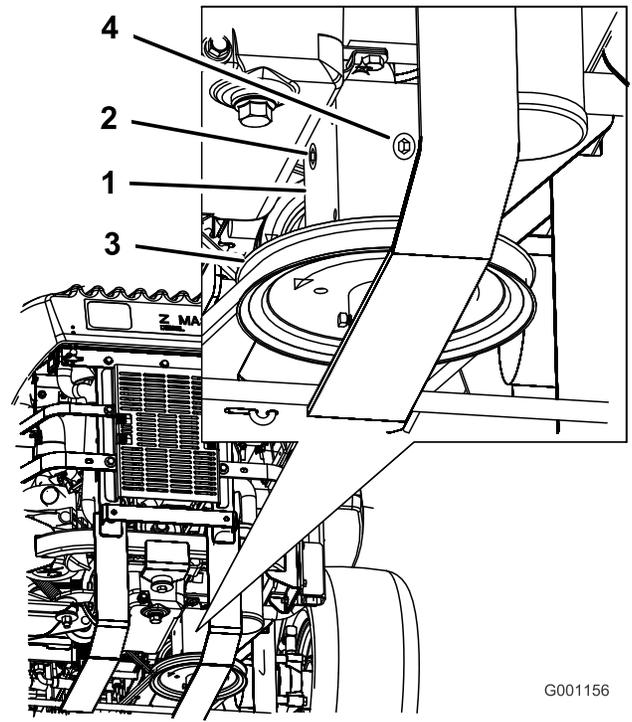

**Figure 63**
3. Remove the dust cap from caster and tighten the locknut (Figure 63).
4. Tighten the locknut until the spring washers are flat, and then back off a 1/4 turn to properly set the preload on the bearings (Figure 63).
- Important:** Make sure that the spring washers are installed correctly as shown in Figure 63.
5. Install the dust cap (Figure 63).